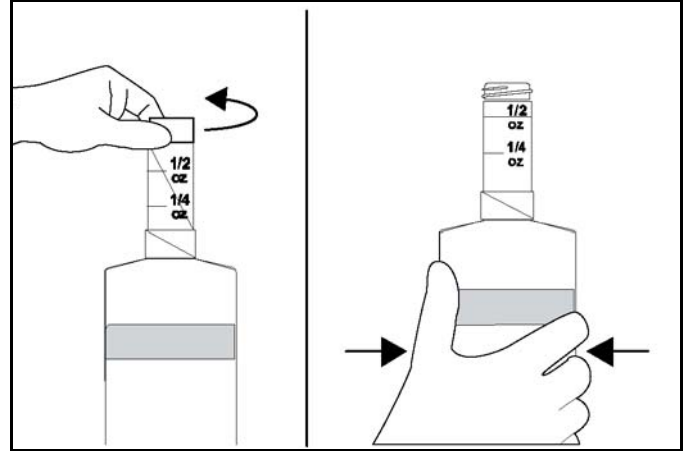

Figure-152
22. Remove the cap from the dosing bottle and squeeze the bottle to fill the dosing cup as marked 1/2 oz. See Figure-152.